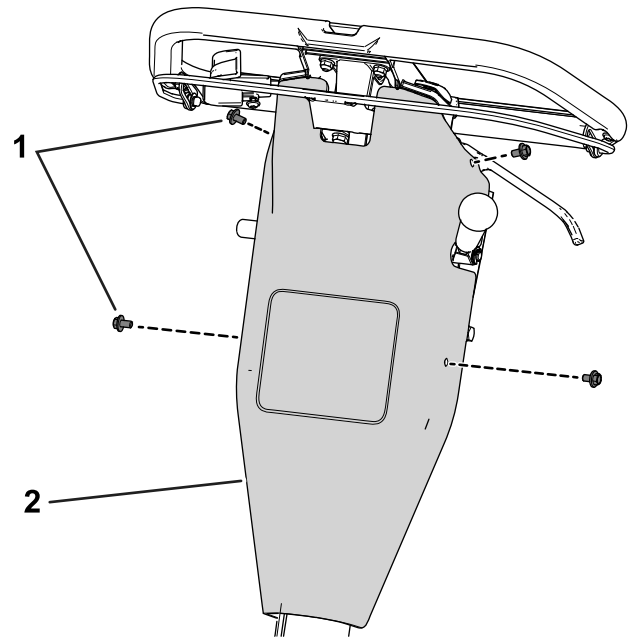

Figure 41
B. Remove the control cover by removing the screws that secure the control cover to the rear panel (Figure 41).